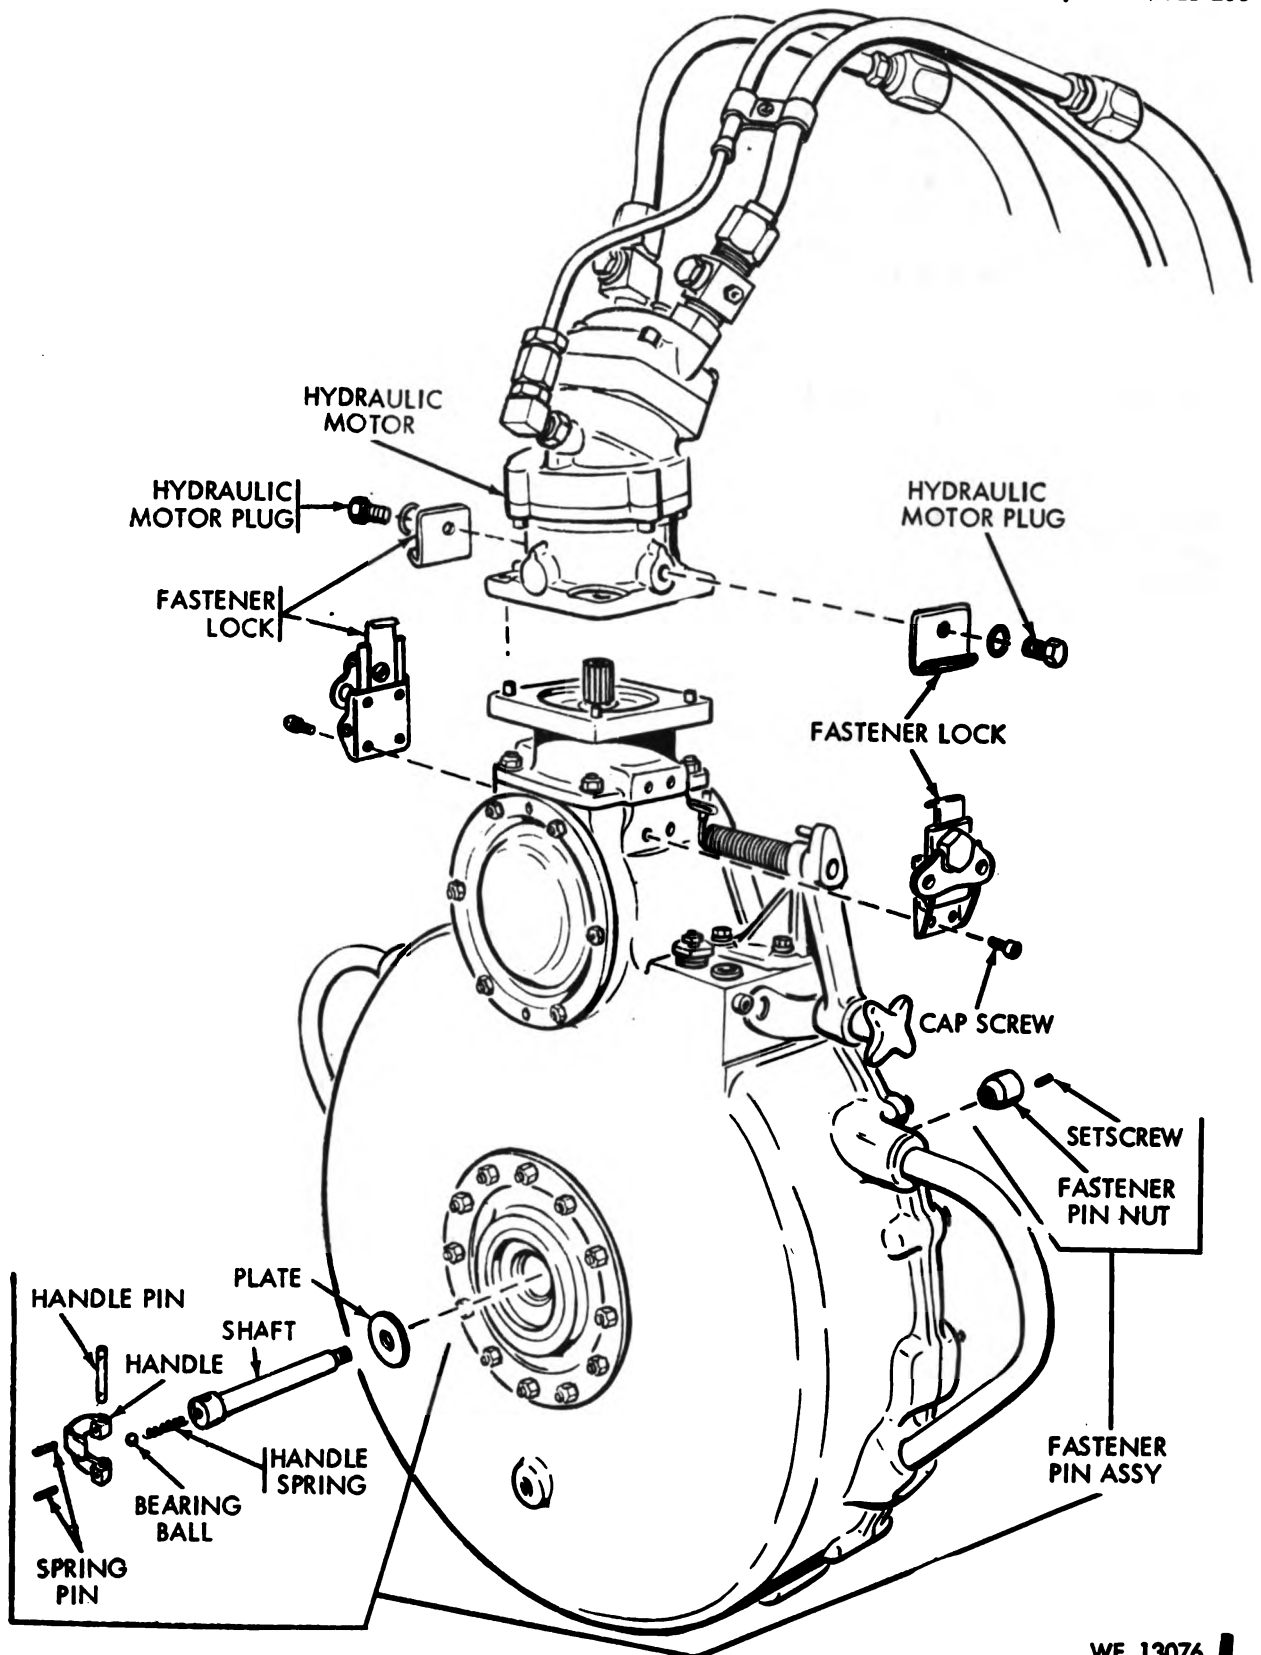
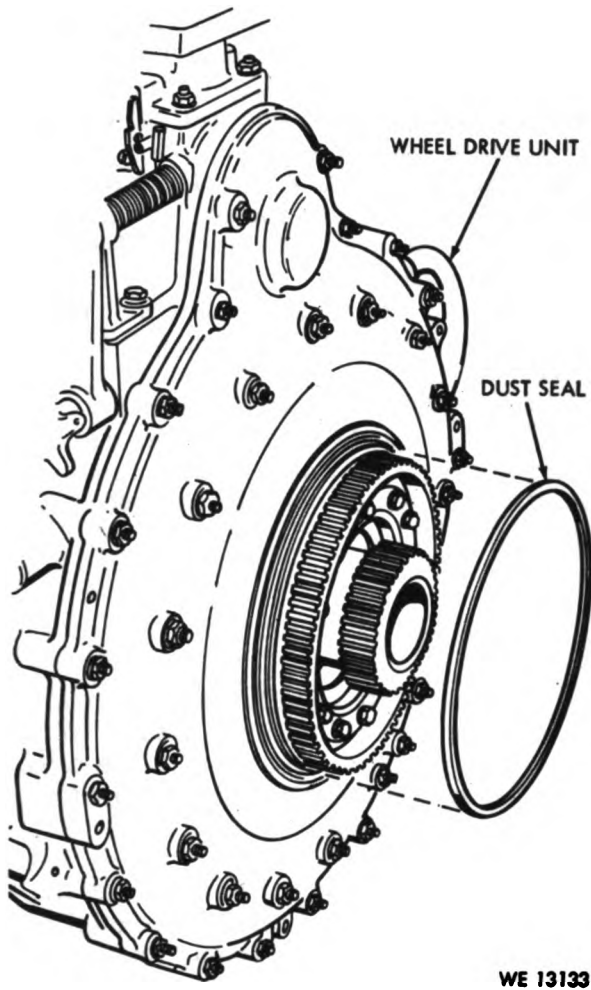

Figure 138. Removal or installation of fastener lock and lockpin.
Figure 139. Removal or installation of dust seal.
**b. Fastener Locks (fig. 138).**
- (1) Remove the four capscrews securing each fastener lock and remove the locks.
- (2) Remove the plugs and remove the tops of the fastener locks and pre-formed packing.
**c. Remove Dust Seal (fig. 139).** Pry dust seal out of groove.
**a. Dust Seal.** Install the dust seal in the groove provided (fig. 139).
- (1) Install the tops of the fastener locks on the hydraulic motor and secure with plugs and performed packings.
- (2) Install each fastener lock on the wheel drive unit and secure with four 10 x 3/8 socket head capscrews.
**c. Drive Unit Fastener Pin Assembly (fig. 138).**
- (1) Position the fastener pin handle on the fastener pin shaft, insert the fastener pin handle spring and bearing ball in the shaft, hold the ball and spring back and insert the fastener pin handle pin through the handle and shaft, with the slot in pin against the ball. Aline the pin holes and insert two 3/32 x 9/16 spring pins.
- (2) Slide the fastener pin plate on the shaft.
- (3) Insert the fastener pin assembly through the center of the wheel drive unit and screw the fastener pin nut on the shaft. Aline the set-screw hole and install the No. 10 x 3/8 hexagon setscrew.